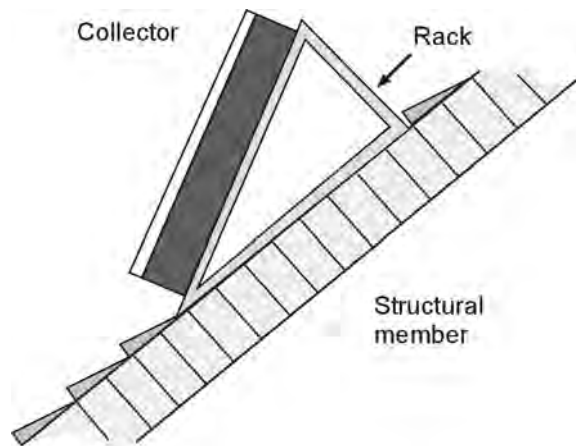

Figure 5 Rack-mounted collector
1. Rack Mounting. This method is used on homes with flat roofs. Collectors are mounted at the prescribed angle on a structural frame (Figure 5). The structural connection between the collector and frame and between the frame and building, or site must be adequate to resist maximum potential wind loads.